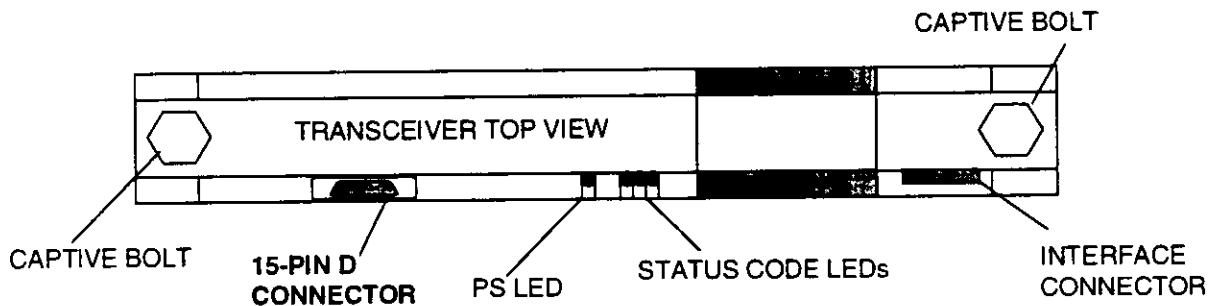

Figure 4-4. Transceiver Connector Location
- e. Connect the 15 pin “D” connector of the RS-232 cable to the test connector on the CMI transceiver to be downloaded. (See Figure 4-4.)